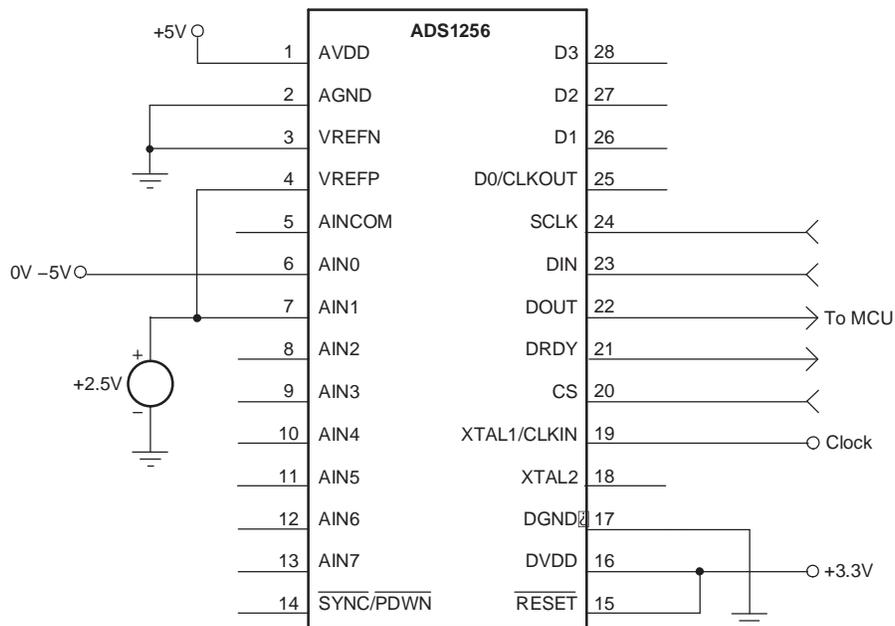

Figure 1. ADS1256 Single-Ended Measurement
This scheme depends on the availability of a voltage equal to half of full-scale. On the ADS1256, the reference voltage is half of full-scale, with gain equal to 1. Therefore, in the circuit shown in Figure 1, we connect the reference voltage to the negative input.
- Connect V_{REF} to V_{INN} , as shown in Figure 1.